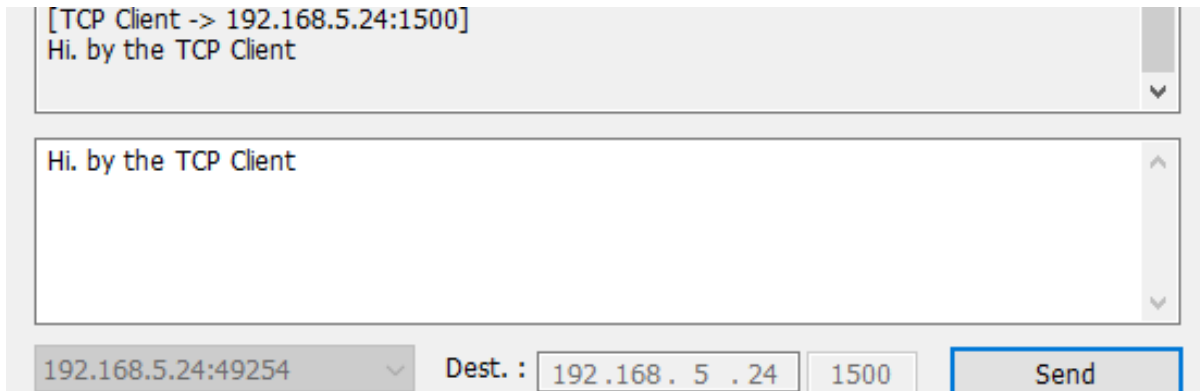

Figure 32: TCP Client Data Transfer
- **TCP Client:** Select the **TCP Client** checkbox → Type a message → Click the **Send** button (see Figure 32)